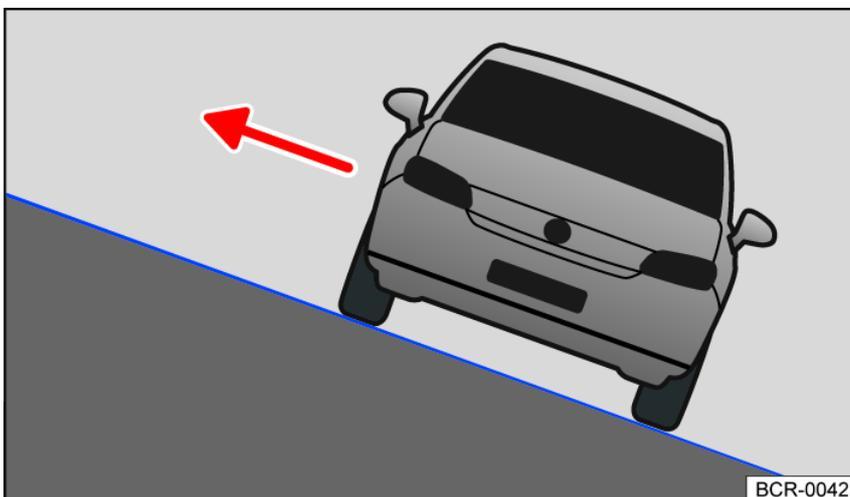

Fig. 127 General example: exit through the side of the vehicle that is facing uphill.
- If the vehicle is stopped at a side angle on a hill, a person must never exit the vehicle through the doors that are facing downhill. This can cause the total center of gravity to shift to the side. The vehicle could tip or flip over and roll down the hill. To reduce the risk of this happening, always exit the vehicle carefully on the side facing uphill *fig. 127*.